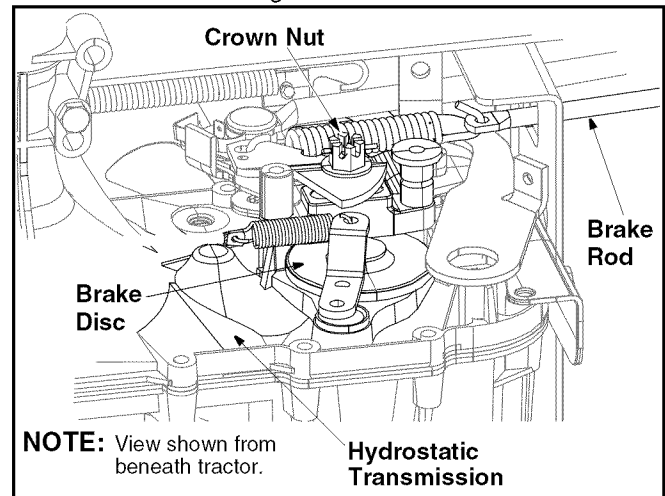

Figure 15
- Looking at the transmission from the right side of the tractor, locate the compression spring and brake disc. See Figure 15.